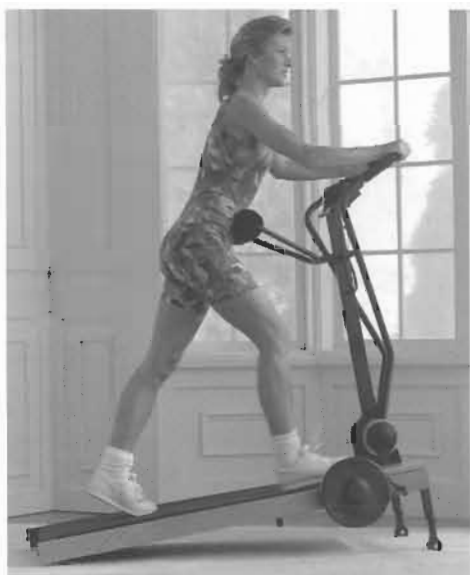

Figure 2
6. **Stand near the front of the treadmill and begin to walk at a slow pace.** Take normal, comfortable strides. Follow a heel-to-toe pattern. Maintain an upright and straight body position (Figure 2). Keep your weight on your feet. Use the arm-exerciser poles and hip pad for balance and stability only.